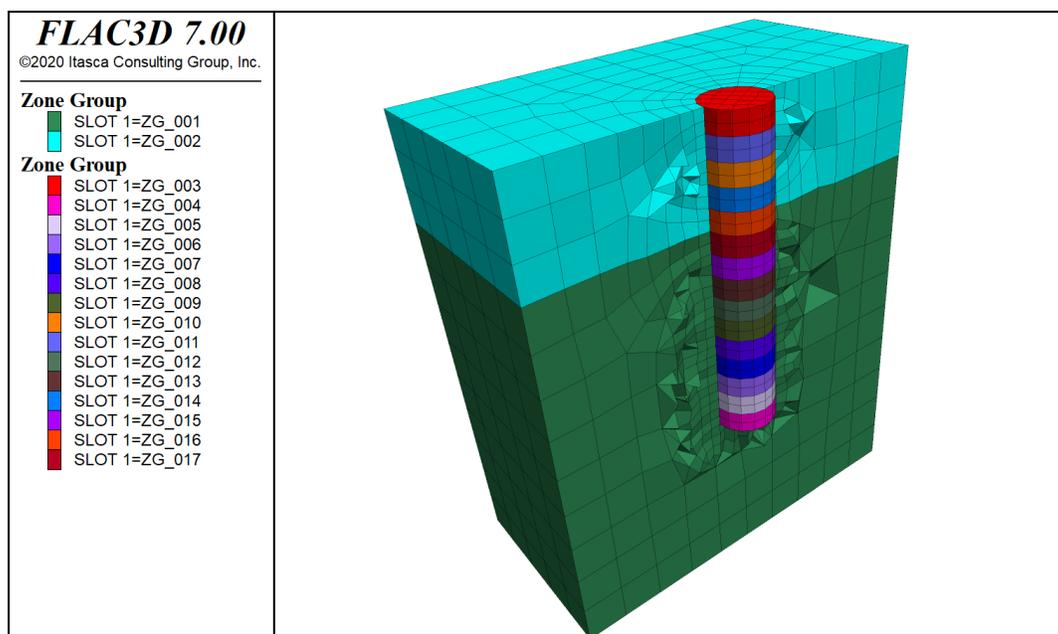
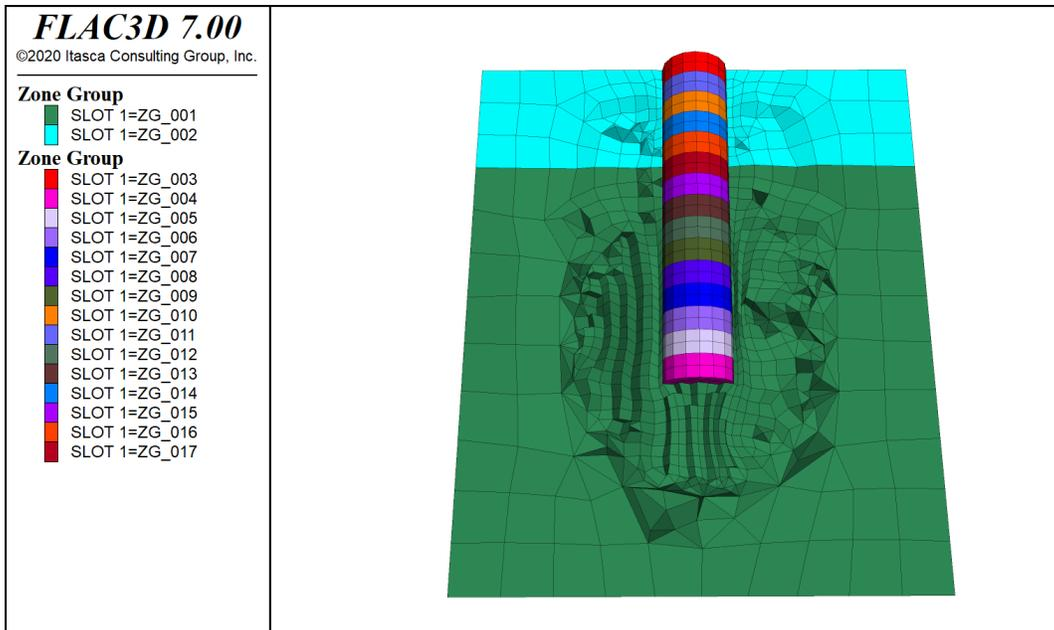

Figure 16: *FLAC3D* grid of the shaft model when using default *GVol* parameters.
Figure 17: *FLAC3D* grid of the shaft model when using custom *GVol* parameters.
The resulting *FLAC3D* grid is shown in Figure 16. The grid is of good quality, but the soil layers have a noticeably sharp change in zone size closer to the shaft. This can be improved by varying the *GVol* parameters.
- Create a new volume mesh using the following *GVol* parameters: *MeshSettings* → *Mode=HexDom*, *MaxGradation=1*, *TargetSize=5*, *Optimization=10*, *ShapeQuality=1*. For the explanation of each parameter, refer to the *Griddle 2.0 User Manual*. The resulting mesh is shown in Figure 17.
The grid surrounding the shaft in Figure 17 has many more zones, and the transition from coarse to finer zones is more gradual. Typically, such results are achieved when *MaxGradation* is set to a small value (< 0.5), but in this case, as the domain boundaries are relatively close to the shaft, a larger value of *MaxGradation* has to be used to force the mesher to quickly change from a large zone size on the boundary of the domain to a finer size specified by the *TargetSize*. Use of the highest possible values for *Optimization* and *ShapeQuality* allows for improving zone quality.
Excavation of the shaft can be modeled by gradual removal of the stages inside the shaft (i.e., zone groups ZG_003 – ZG_017 as in Figure 16 and Figure 17).